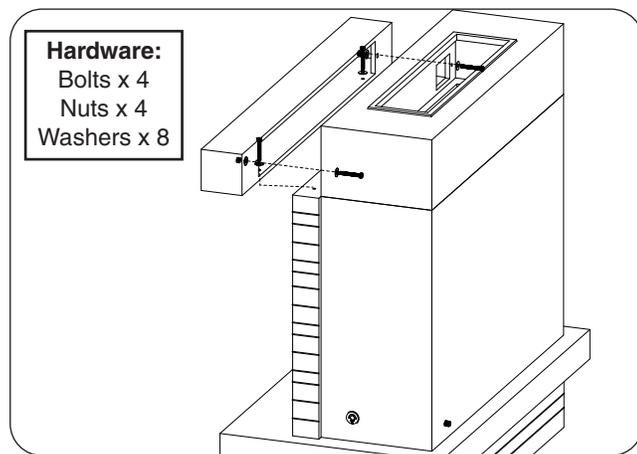

Fig. 23-2 Assemble mantel
1. Place the mantel on top of the fascia and against the chimney. Carefully align the pilot holes, and repeat the hardware installation process. See Fig. 23-2.